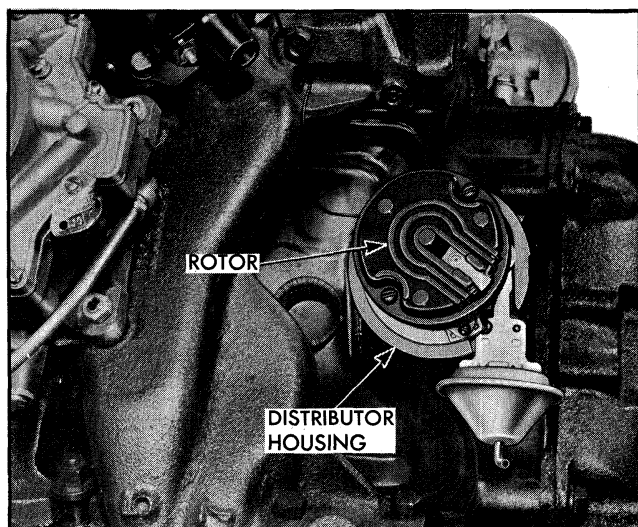

Fig. 11-59 Relationship of Distributor Housing in Firing Position for No. 1 Cylinder
3. Install distributor in block so that vacuum diaphragm faces the left side of the engine and rotor points toward contact in cap for No. 1 cylinder. Before installing distributor, index rotor with housing as noted when distributor was removed. This will simplify indexing the distributor shaft and gear with the oil pump drive shaft and the drive gear on the camshaft. Distributor and rotor will be positioned as shown in Fig. 11-59 when properly installed with No. 1 piston in firing position.